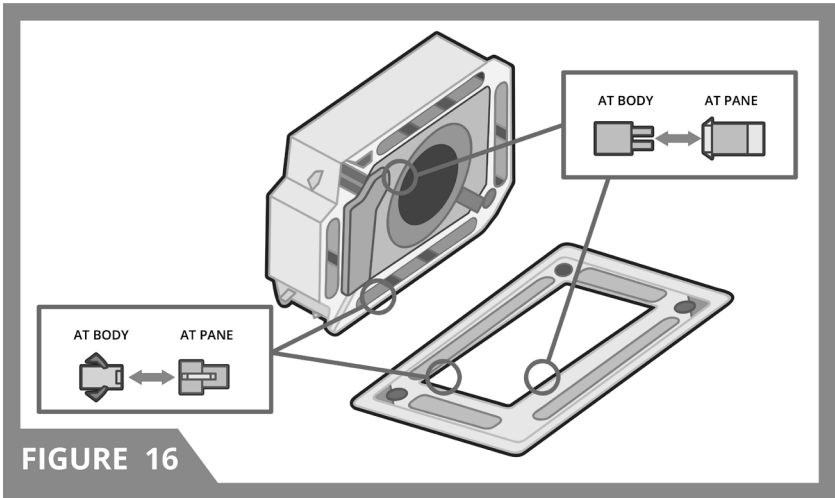

FIGURE 16
2. Use the hooks on the opposite side of the louver motor to temporarily attach the ceiling panel, connect the wiring (see Fig. 16) then attach the remaining hooks.